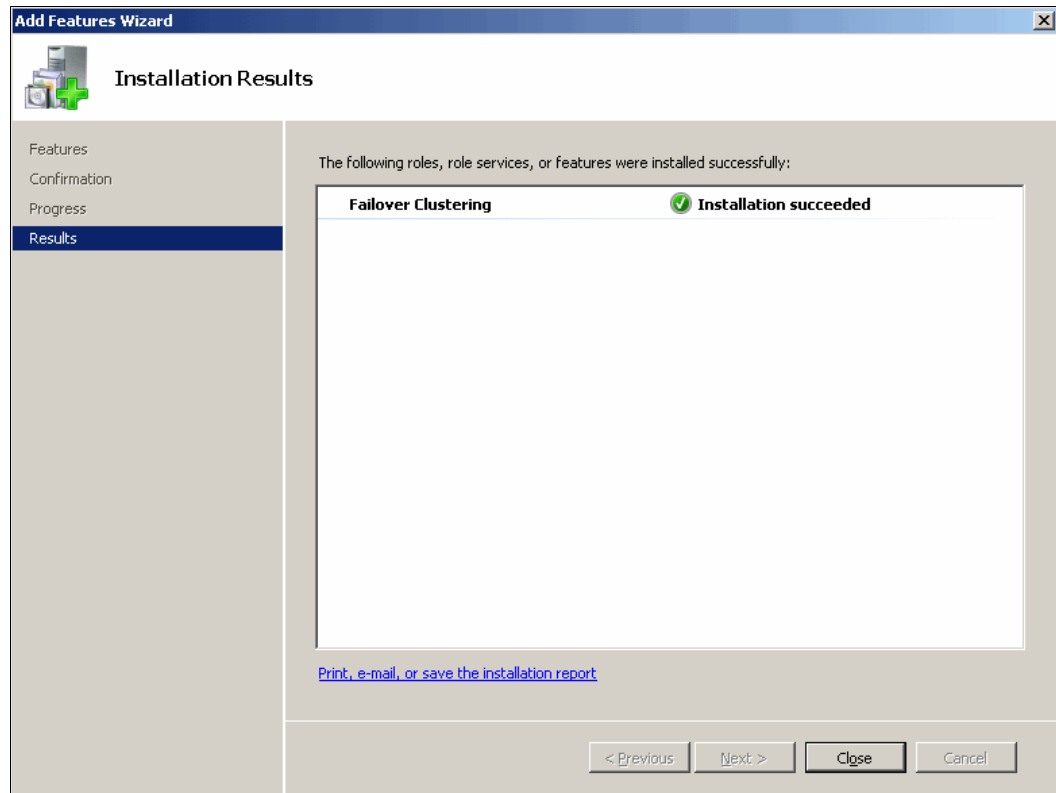

Figure 19-12 Installation Succeeded
4. Ensure that the failover clustering feature is installed successfully as shown in Figure 19-12 on page 566.